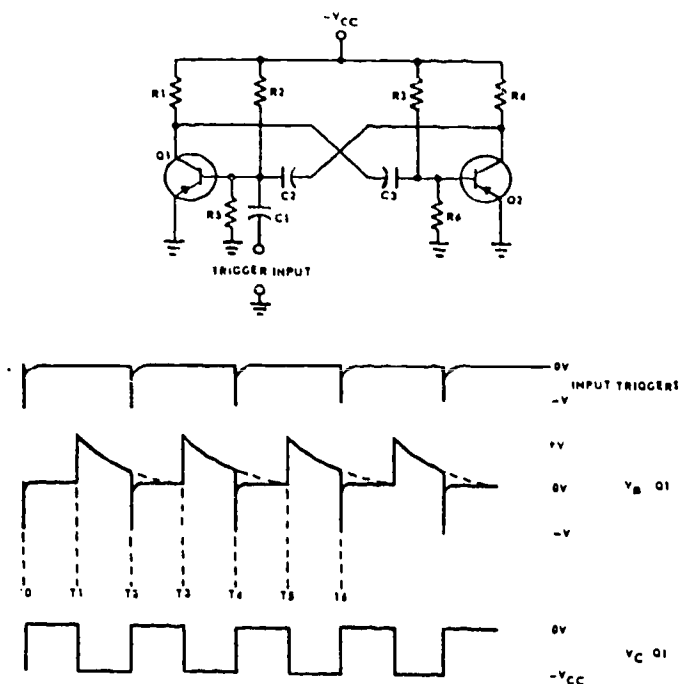

Figure 3-9. Triggered astable multivibrator.
Some astable multivibrators must have a high degree of frequency stability. A method of obtaining a greater degree of frequency stability is to apply triggers. Figure 3-9 shows the schematic of a triggered astable multivibrator using PNP transistors. At time T0, the negative input trigger to the base of Q1 causes Q1 to go into saturation, which drives Q2 to cutoff. The circuit will remain in this condition as long as the base voltage of Q2 is positive, determined by C3, R3, and R6. Observe the parallel paths for C3 to discharge.
At time T1, Q2 comes out of cutoff and goes into saturation. Also, Q1 comes out of saturation and is cut off. The base voltage waveform of Q1 (fig. 3-9) shows a positive potential that is holding Q1 cut off. This
1. Refer to figure 3-9. Assume that normal operation is free-running, with a square-wave output obtained from the collector of Q2. *Symptom:* The negative alternation of the output is longer than normal. What could cause this particular condition?
2. Refer to figure 3-9. Assume normal operation is free-running with a square-wave output obtained from the collector of Q2. *Symptom:* V_{cc} on Q2 is high, and V_{cc} on Q1 is very low. This indicates Q1 is saturated. What could cause this particular condition?